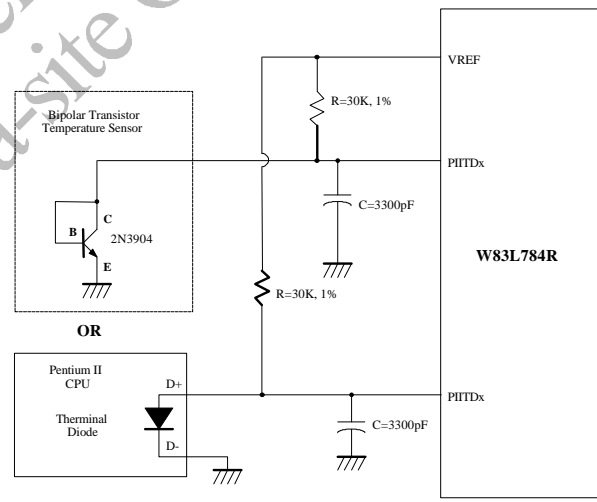

Figure 12.
The W83L784R can alternate the thermistor to Pentium II™ (Deschutes) thermal diode interface or transistor 2N3904 and the circuit connection is shown as Figure 12. The pin of Pentium II™ D- is connected to power supply ground (GND) and the pin D+ is connected to pin PI1x in the W83L784R. The resistor R=30K ohms should be connected to VREF to supply the diode bias current and the bypass capacitor C=3300pF should be added to filter the high frequency noise. The transistor 2N3904 should be connected to a form with a diode, that is, the Base (B) and Collector (C) in the 2N3904 should be tied together to act as a thermal diode.